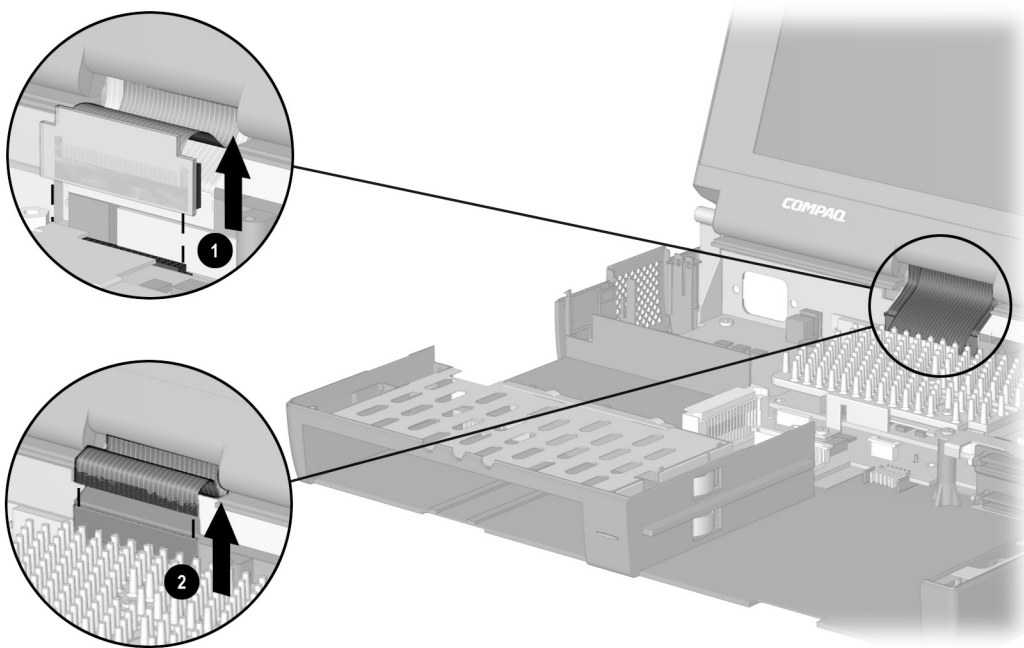

Figure 5-48. *Disconnecting the Display Video and Ground Cables*
10. Disconnect the display video cable ❶ from the system board (Figure 5-48).
11. Disconnect the display ground cable ❷ from the clip in the base assembly.